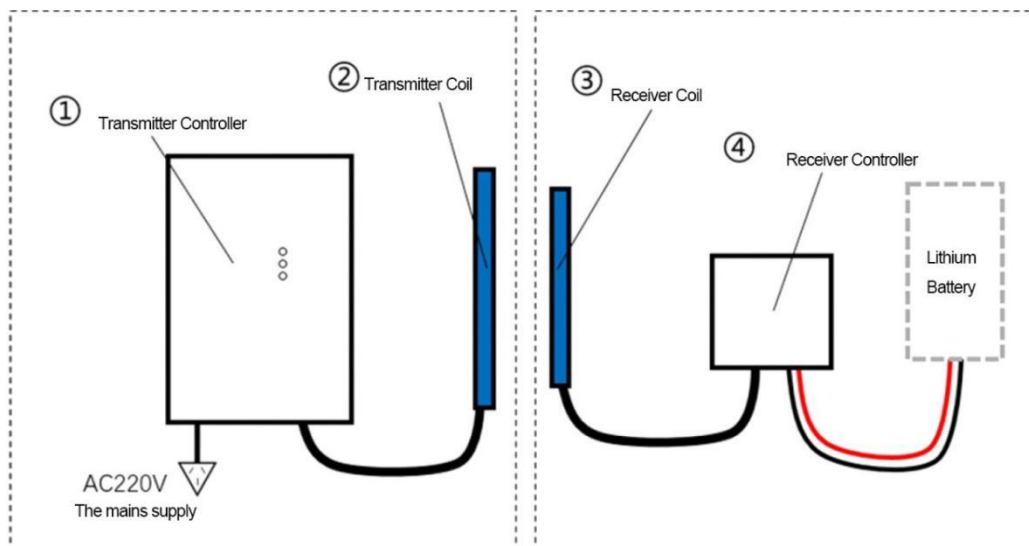

Fig 8 – System wiring diagram
2. Wiring method as shown in Figure 8, the normal working vertical range of the transmitter coil to the receiver coil is 10-30mm (optimal charging distance is 20mm); The single-direction (X or Y) offset is  $\pm 20\text{mm}$ , and the bidirectional (X and Y simultaneously) offset is  $\pm 15\text{mm}$ .